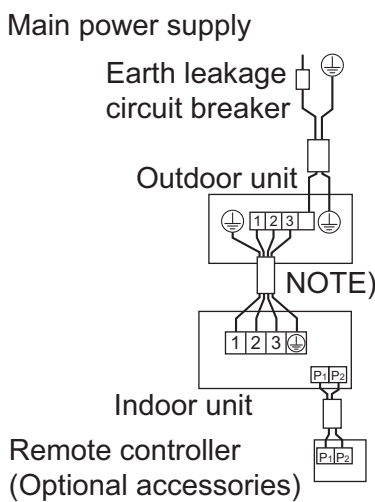

Fig. 25
- **Pair type:** 1 remote controller controls 1 indoor unit (standard system). (Refer to Fig. 25)